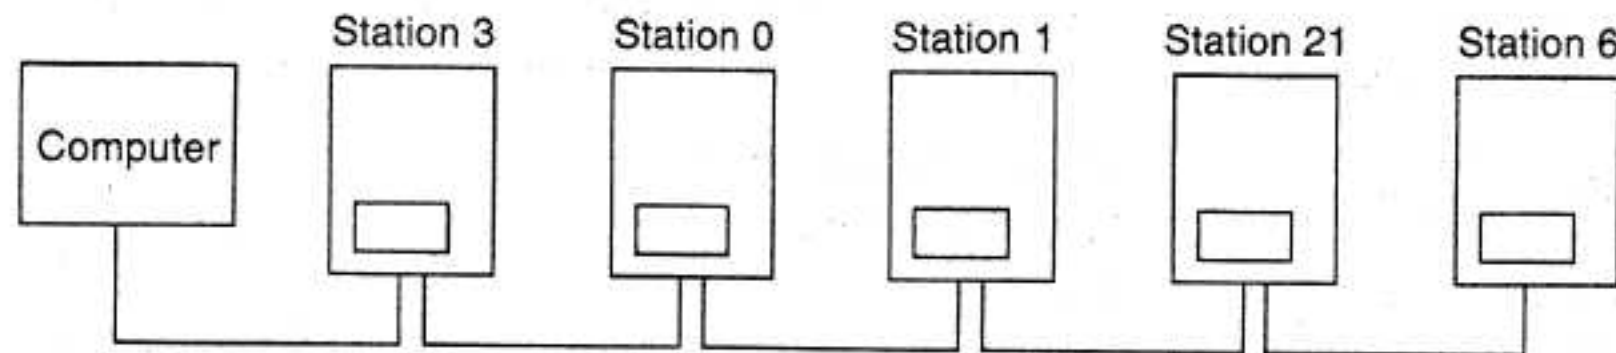

Fig. 7.1 Station Number Setting Example
- 3) Station numbers do not have to be sequential and may be skipped, e.g. as shown in Fig. 7.1